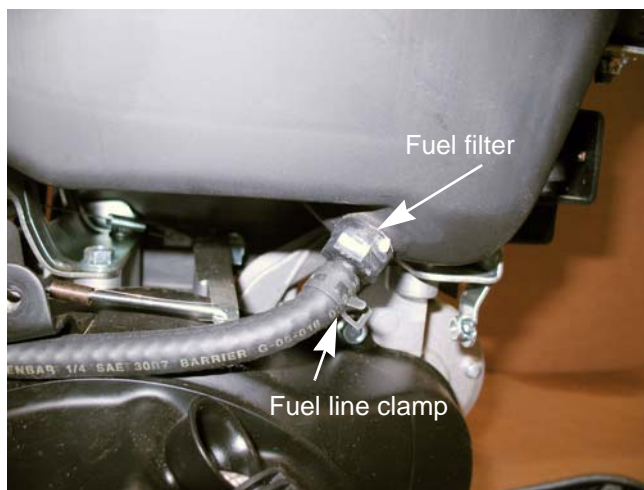

Figure 1.10
- 3a. Squeeze the tabs on the fuel line clamp with a pair of pliers while sliding the clamp down the fuel line away from the nipple. See Figure 1.10.